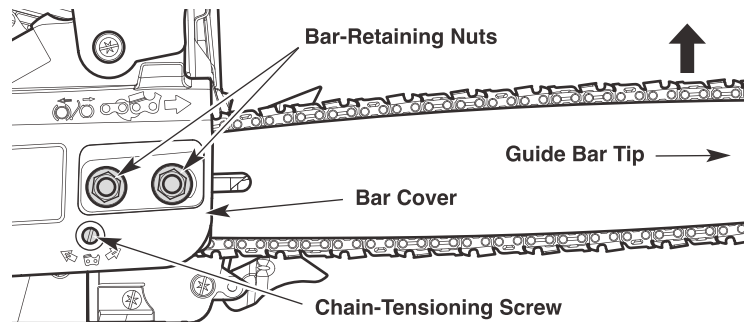

Fig. 27
**NOTE:** A new saw chain tends to stretch and will need readjustment after as few as five (5) cuts. This is normal during the break-in period. The interval between future adjustments will lengthen quickly.
2. Use the srench or a 1/2 inch (13 mm) wrench to slightly loosen the bar-retaining nuts (Fig. 27). **DO NOT** remove the bar cover.
3. Hold the guide bar tip up and use a flat-head screwdriver to turn the chain-tensioning screw (Fig. 27).